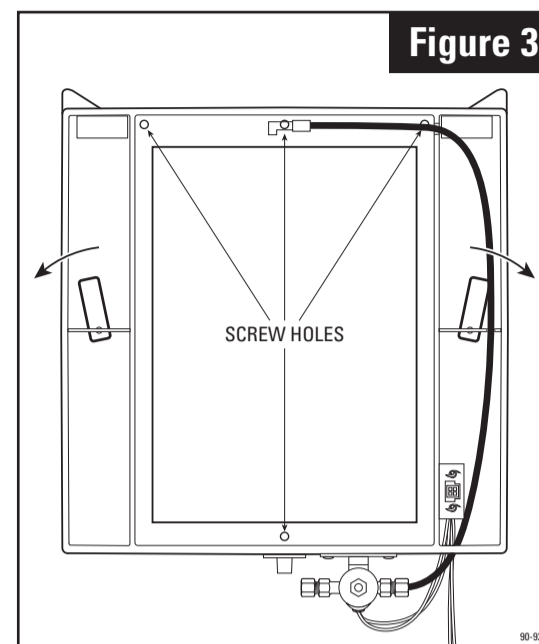

Figure 3
Secure base to opening using top three screw holes in housing. An additional hole is provided at the bottom for securing the base to the plenum. (See Figure 3)
**4.** While pressing the base against the plenum, reach through the center opening and turn left and right swing latches down to secure the base onto the plenum. (See Figure 3) Seal duct around base with foil tape or mastic.
**5.** Reinstall the evaporative assembly into the base, with the bottom of the scale control insert (5) sitting firmly in the inside of the drain spud attached to the base. Push the evaporative assembly in at the top between the retaining ribs that hold the assembly in place in a vertical position. Reinstall cover assembly by hooking at the top of base assembly and latching at the bottom.